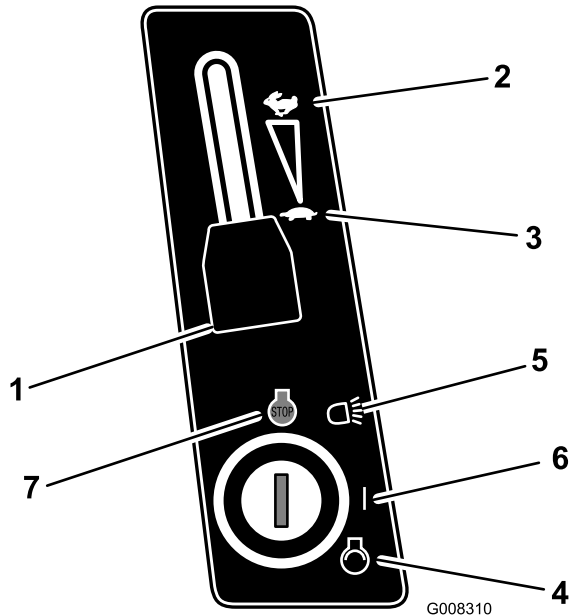

Figure 13
- When starting a cold engine, shift the throttle control lever to the Choke position (Figure 13).
- Shift the throttle control lever to the Slow position (Figure 13).
- Turn the ignition key clockwise and hold it in the Start position (Figure 13). When the engine starts, release the key.
- After the engine starts, slowly shift the throttle control lever to Fast (Figure 13).
- Move the throttle control lever to Slow (Figure 13).
- Turn the ignition key to Off (Figure 13).